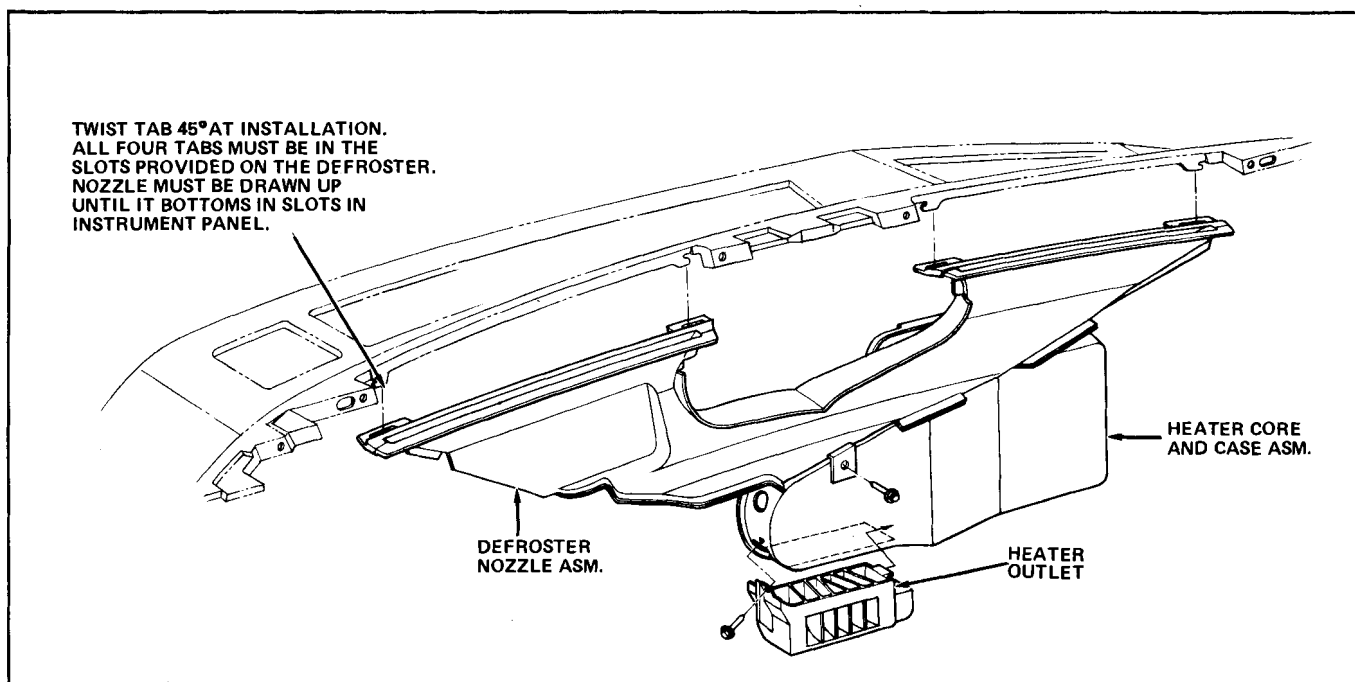

Fig. 1-20 B Series Heater Duct Installation
13. Remove defroster nozzle to heater case screw. Straighten defroster nozzle retaining tabs (Fig. 1-20) and remove defroster nozzle.
14. To replace, reverse removal procedure. Refer to Fig. 1-20 for defroster nozzle attachment. Check cable adjustment after assembly and adjust cables if necessary.
6. Remove defroster nozzle screw at heater case. Straighten nozzle retaining tabs (Fig. 1-20) and remove nozzle.